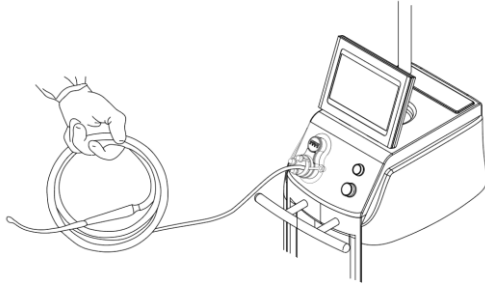

Figure 29 To Gather Suction Tubing
- a. With suction active, gather the suction tubing toward the manifold port to purge the tubing of fluid waste. DO NOT remove any attached suction tubing from the manifold (Figure 29).